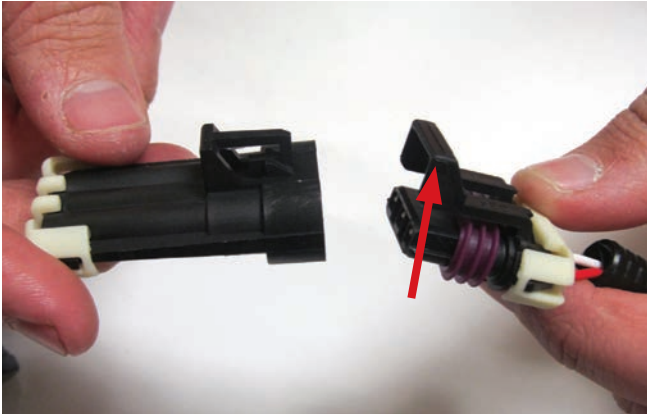

Figure 1
1. Remove COM connector dust cap by lifting the lock. **Reference Figure 1.**